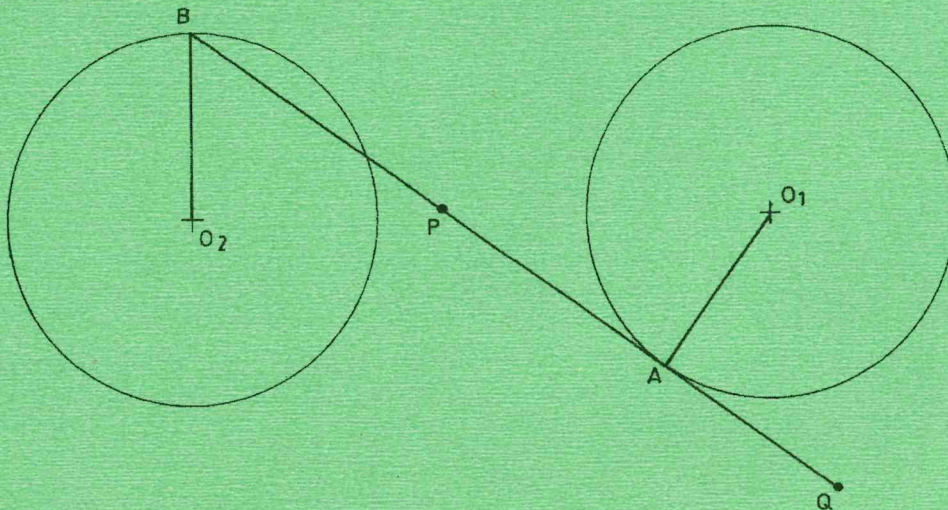

Fig.4
4. Figure 4 shows a four bar link mechanism with O_1 and O_2 as fixed points. The driving crank is O_1A . The distance between O_1 to $O_2 = 100$ mm. Draw the loci of points P and Q for one complete revolution of the driving crank given that point P is the midpoint of AB and